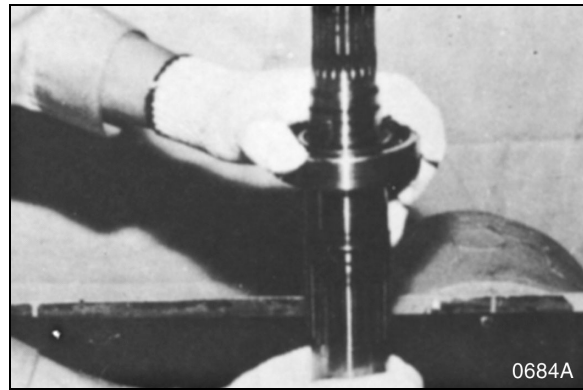

Figure 76
8. If the old bearing was removed and requires replacement, preheat the drive shaft roller bearing (149, Figure 12) to a temperature of 100°C (212°F) using a liquid oil bath heater to raise the temperature evenly. Press fit the expanded bearing (149) on the shaft (102). See Figure 76.